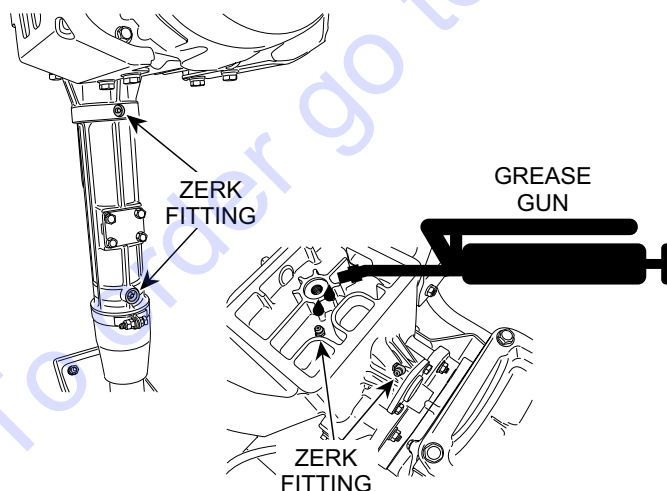

Figure 6. Lubrication Points
1. There are **four** grease fittings (Figure 6) that require lubrication of the main spring and crankcase. Lubricate these fittings as outlined in the maintenance section of this manual.